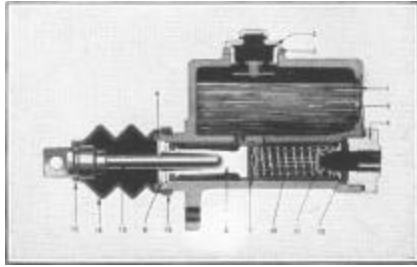

Figure 57
Dirt is injurious to the system and extreme care should be taken to wipe off cap (2), Figure 57, before removing the cap for inspection and filling.
As pressure is exerted on the master cylinder piston (6), Figure 57, through the brake pedal, the force built up in the hydraulic brake tubes tends to force outward wheel piston cups and pistons, expanding the brake shoes at the top.